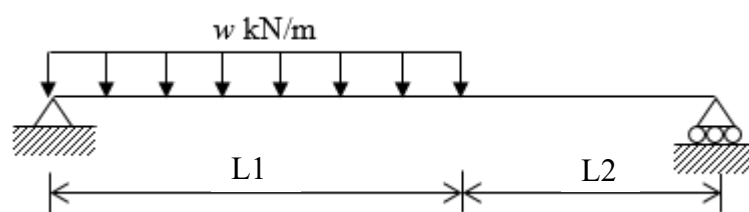

Figure 5
3. (a). **Figure 5** shows a simple beam subjected to a uniformly distributed load of w kN/m acting at the first L_1 m from the left support. Flexural rigidity of the beam is $2EI$. Given $E = 210$ GPa and $I = 125(10^6)$ mm⁴, calculate the slope and deflection of the beam at a point b m from the right support of the beam. **The values of w , L_1 and L_2 are given in Table 1 according to your matriculation number.** Use either moment-area method or conjugate-beam method.